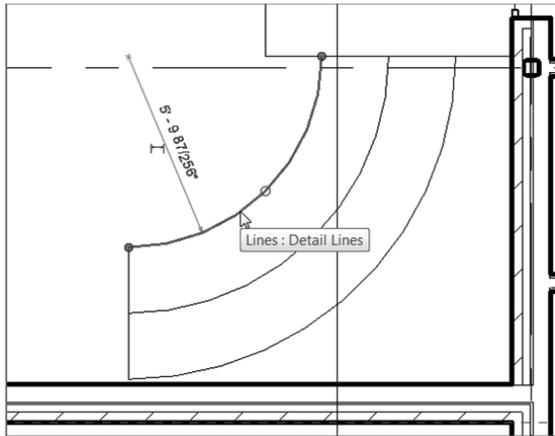

FIGURE 10.39 : Selecting the smaller arc
1. Press Esc, and then select the smaller arc, as shown in Figure 10.39.